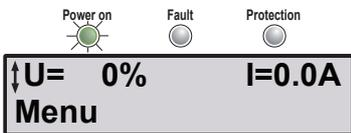

Figure 3: Top level
9. The green "Power on" LED is on and the LCD shall appear as in Figure 3.